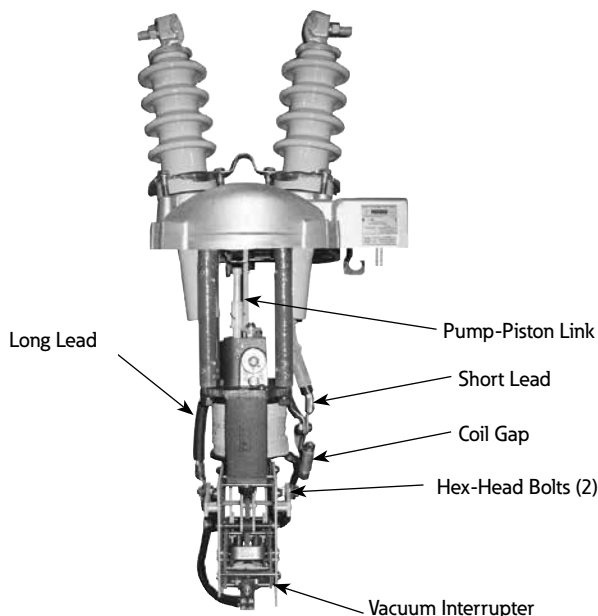

Figure 2. Type 4H recloser converted to vacuum interruption.
One KA700V4H vacuum interrupter kit is required to convert a single-phase Type 4H oil recloser. Components of the conversion kit are shown in Figure 2 and listed in Table 1. Refer to *Service Information S280-10-3 Type 4H and V4H Recloser Maintenance Instructions*.
8. Replace the coil-gap leads with the new leads from the kit and connect the coil gap and lower coil lead to the other side of the interrupter. A converted 4H mechanism assembly is shown in Figure 2.